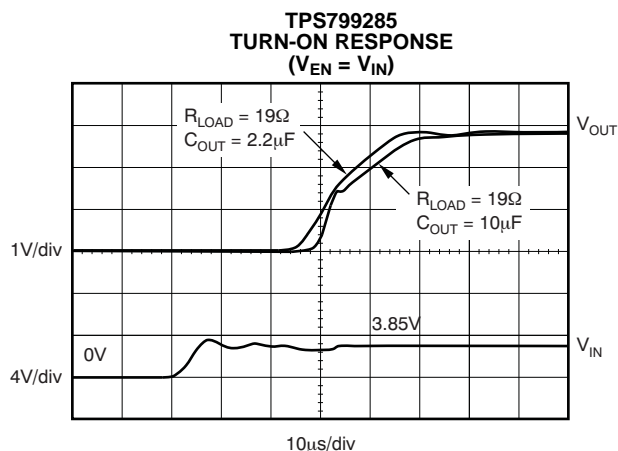

Figure 25.
Note that for fastest startup,  $V_{\text{IN}}$  should be applied first, then the enable pin (EN) driven high. If EN is tied to IN, startup will be somewhat slower. Refer to Figure 25 and Figure 26 in the *Typical Characteristics* section. The quick-start switch is closed for approximately 135 $\mu\text{s}$ . To ensure that  $C_{NR}$  is fully charged during the quick-start time, a 0.01 $\mu\text{F}$  or smaller capacitor should be used.